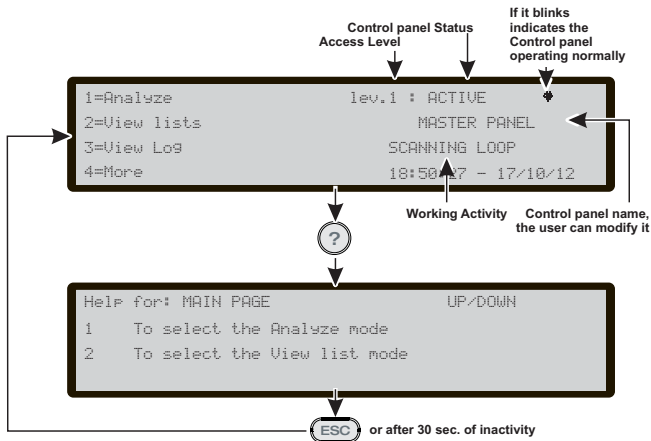

Figure 2 Example of the LCD display after pressing the Help key
- The Help button (Ⓜ) to open the **Help** pages on the display (see example in Figure 2).